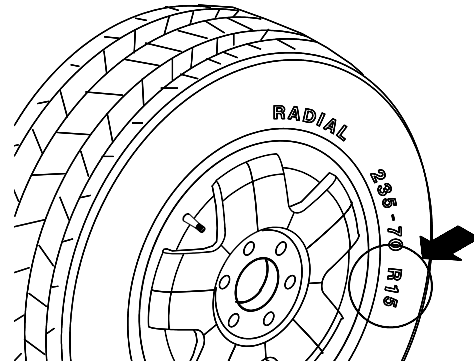

Figure 24
**4.5.3.0 Manual Rim Diameter Entry** - Select the Manual Diameter button. Read the rim diameter marked on the sidewall of the tire (Figure 24). Press the Diameter Button and enter the measured rim diameter by rotating the shaft until the desired value appears in the right display.